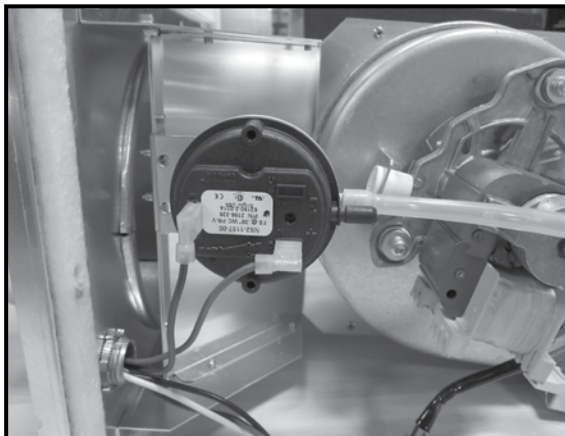

Figure 3.12
5. Attach the red and brown wires to the pressure switch. See Figure 3.12.